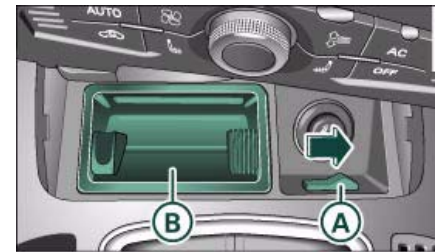

Fig. 98 Centre console: Ashtray open
- Slide the switch **(A)** ⇒ fig. 98 to the right to release the ashtray.
- Take out the ashtray **(B)** ⇒ fig. 98.